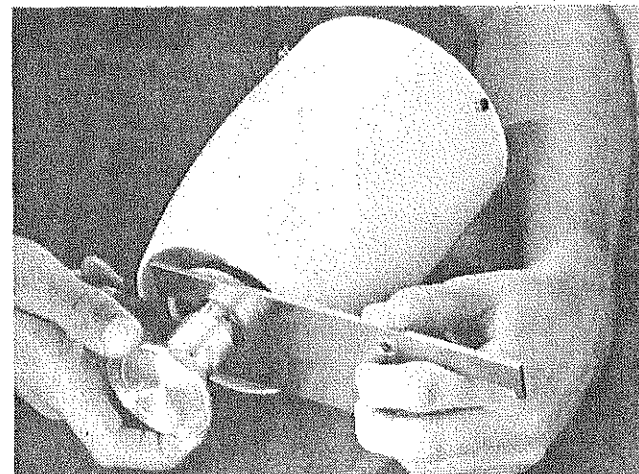

FIG. 39
25. Install atomizer bell assembly onto shaft by locking the shaft with RPM-419 wrench, and spinning bell on CW. *Hand tighten only* (Fig. 39).